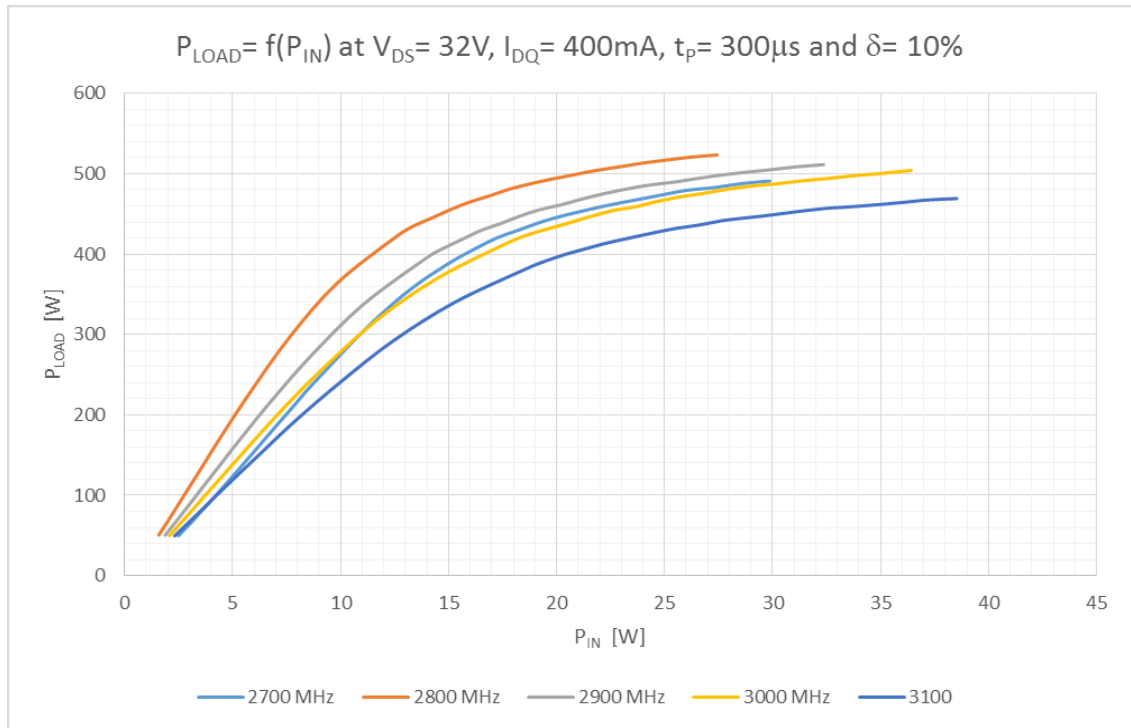

Figure 1 P_{LOAD} vs P_{IN}
- Figure 1 P_{LOAD} VS P_{IN} 4